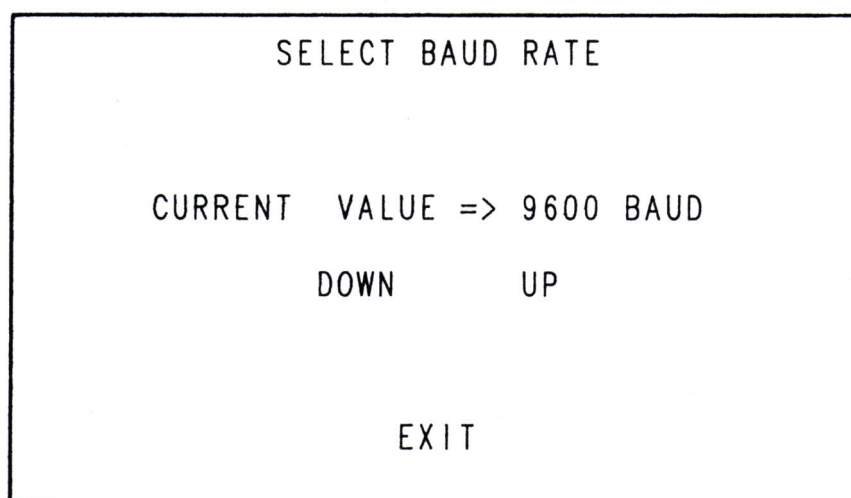

Figure 2-7
- 3) Once you've set these parameters to the correct values, touch EXIT to go on to the next screen, which is used to set the Baud Rate (refer to Figure 2-7).